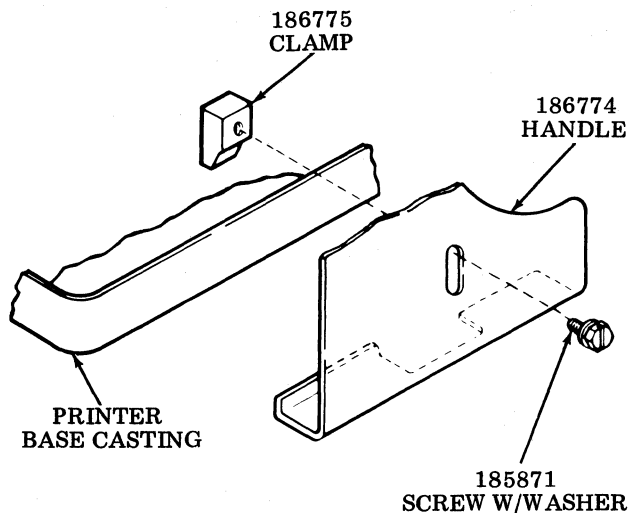

Figure 17 - 186776 Handle Modification Kit
2.76 The 186776 modification kit provides a handle that attaches to the left-rear corner of the typing unit casting to assist in the installation or removal of the unit only (Figure 17).